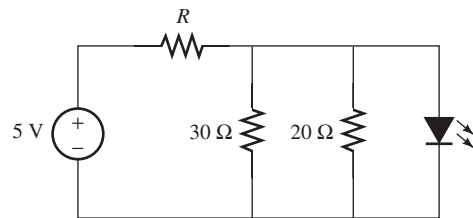

FIGURE P8.29 Circuit for Problem 8.29.
- 8.29** (H)* What is the maximum resistance, R , allowable to let a light-emitting diode work in the circuit shown in Figure P8.29?